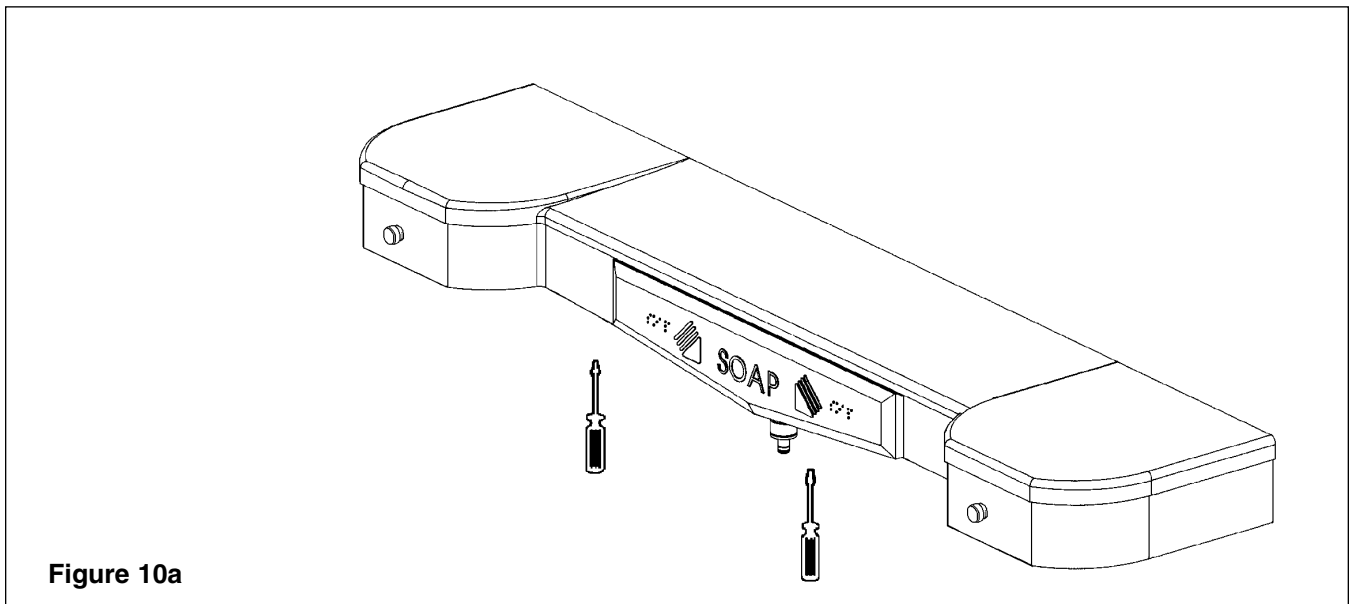

Figure 10a
1. Using two screwdrivers (or similar tool), push up on the release tabs located beneath each soap dispenser and pull out the soap tanks from the sprayhead (see Figure 10a).